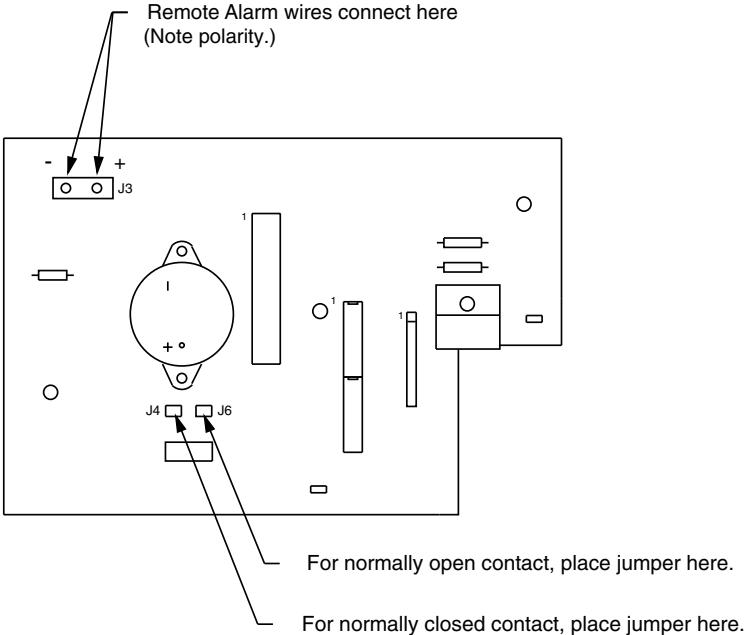

Figure 6-2. Jumper Location
**Note** The LN2 level monitor can be configured with either a normally open contact or a normally closed contact. Which mode is currently operative depends on the placement of a single jumper on the circuit board. For a normally open contact, the jumper should be placed on J6. For a normally closed contact, the jumper should be placed on J4 (see Figure 6-2). **Verify that the jumper is set appropriately for your remote alarm system. ▲**